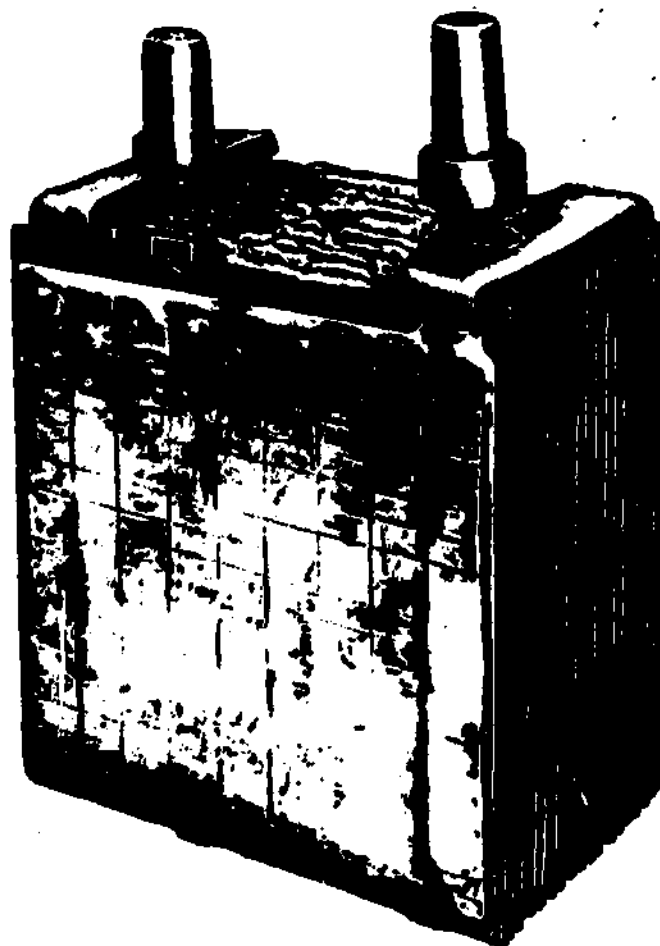

Fig 1-87. Sulfated elements.
- (1) **High rate.** A battery which needs a charge but is otherwise in sound condition can be brought back to three-fourths of a full charge in less than an hour. Considerable heat will be generated with this method so the length of the charging period and the temperature of the electrolyte should be closely watched. The instructions on the charger will tell you how long to charge the battery and what voltage should be used. It will normally be around 15 volts and just slightly higher if the outside air temperature is under 50°F. The temperature of the electrolyte should be kept below 120°F or it may ruin the battery. While this method provides the quickest charge, it also is the most wearing on the battery.
- (2) **Moderate rate.** This is normally considered to be the best all around method. It may take more time but it is less wearing on the battery. You would normally start a moderate rate charging on a battery at a voltage equal to 10% of the battery's rated ampere-hour capacity and gradually complete the charging at about 5% of the battery's rated ampere-hour capacity. The two most common 12 volt batteries which you will be dealing with are designated 2HN and 6TN and have rated ampere-hour capacities of 45 and 100 respectively. Using the 10% and 5% rule discussed above, we would start the 2HN battery out on a 4.5 volt charge and gradually end up with 2.25 volt charge. What would the start and finish charge voltages be for the 6TN battery? . . . I hope you came up with a starting voltage of 10 and end with 5.
- (3) **Trickle charge.** This is a very slow type of charge which uses low voltage over a long period of time. It is used to charge batteries slowly and it is not uncommon to find several batteries kept in storage to be on a trickle charge so that they are kept ready to use. While the charging process is slow using a trickle charge, checks should be made on the specific gravity of the battery so that it is not overcharged. You should carefully watch the battery during the first few minutes of charging. If the electrolyte begins to bubble excessively (called gassing), you should reduce the charging rate and check it again after a few minutes. Gassing may cause some water to evaporate from the battery, so add water if necessary to keep the electrolyte above the plates. Also check the specific gravity occasionally during charging and as the battery nears full charge, check it at least every hour. A battery which is constantly kept discharged or undercharged or one in which the LEVEL of the electrolyte is ALLOWED TO REMAIN BELOW THE LEVEL OF THE PLATES may become sulfated (fig 1-87). A sulfated battery has a white crystalline formation on the plates which prevents them from working properly. A sulfated battery may be